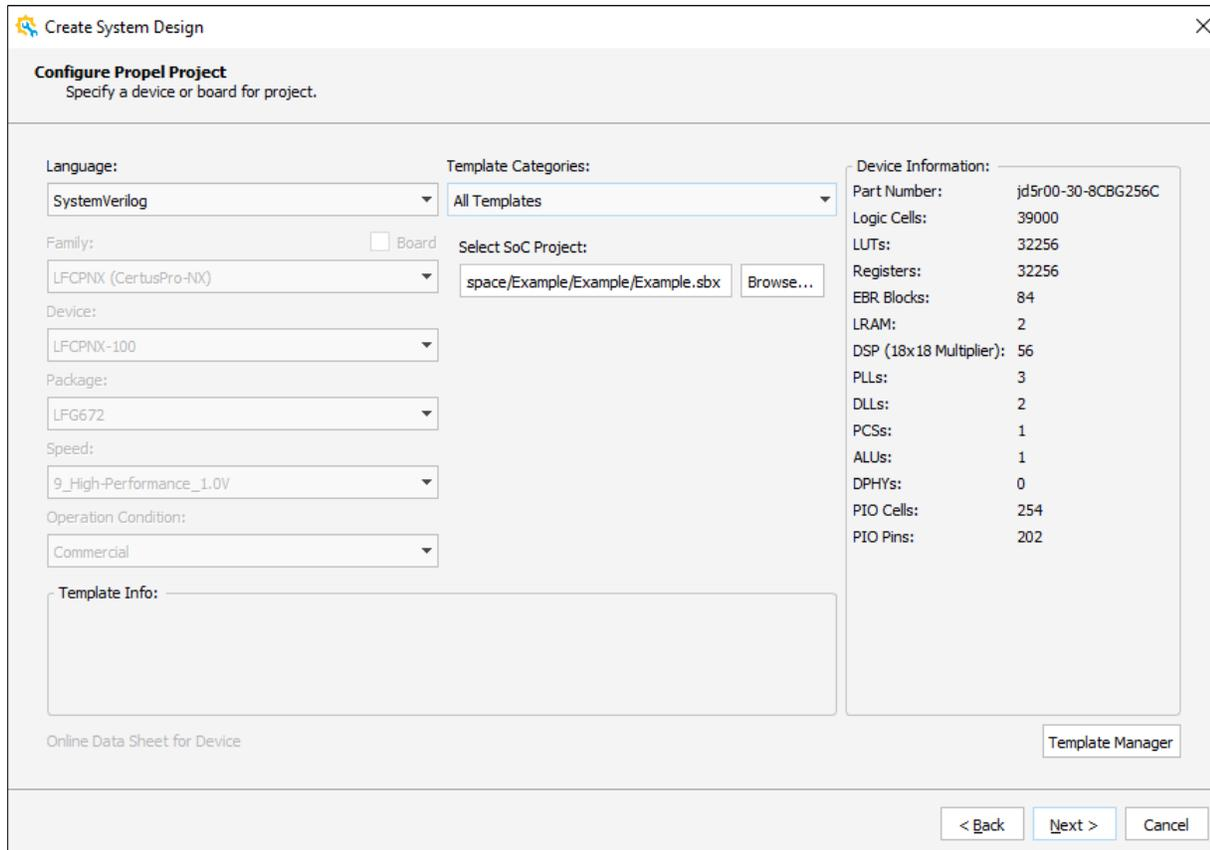

Figure 2.101. Create System Design – Propel Project Configure Wizard
5. Click **Next**. The Propel Project Configure wizard is shown as Figure 2.101.